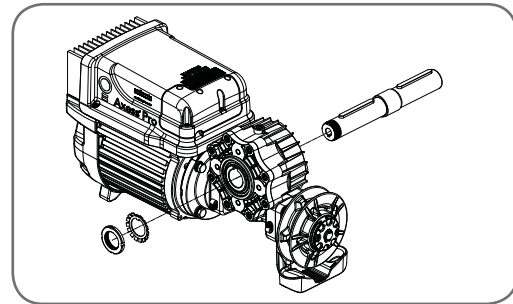
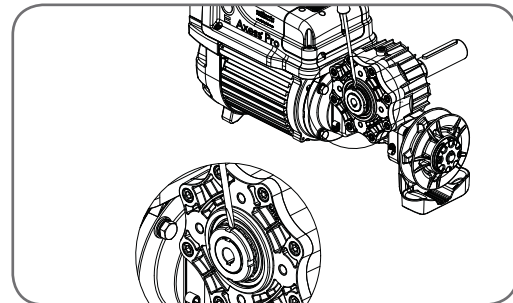

fig 04
fig 05
2. Insert the output drive shaft into the gearbox and fix it with lock washer and lock nut (**Fig. 04**). After tighten the lock nut lock it by bending one tooth of the lock washer into the slot on the lock nut (**Fig. 05**).